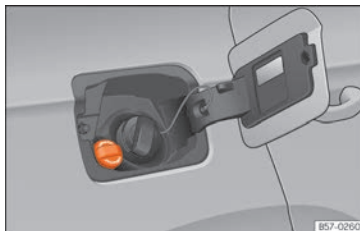

Fig. 224 AdBlue tank cap.
- Open the tank cover »» Fig. 224.
- Turn the SCR tank cap anti-clockwise »» Fig. 224.